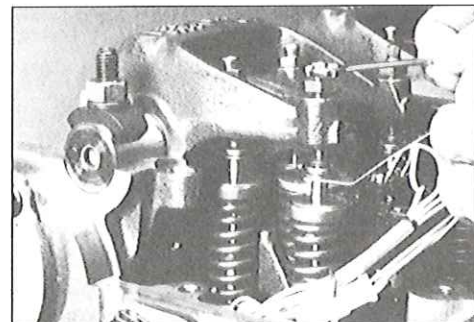

FIG. 59
- Loosen the locknut and turn the adjusting set screw (Fig. 59) until the feeler gage produces an even or smooth pull between the valve stem and the valve button.